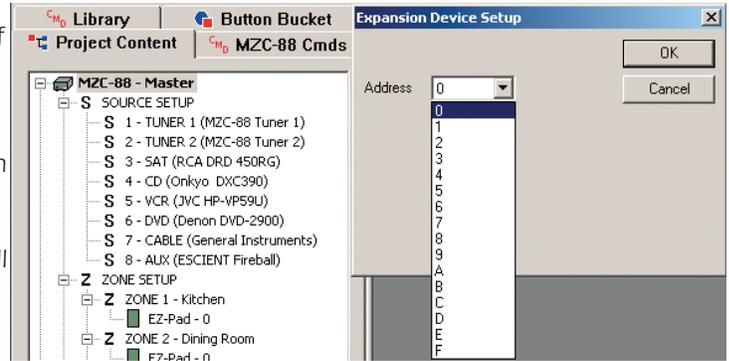

Figure 4
- Select an Address from the Address pull-down. (Refer to Figure 4) If using only one RSA-1.0 use the default of '0'. If using multiple RSA-1.0s, set each to a different address.